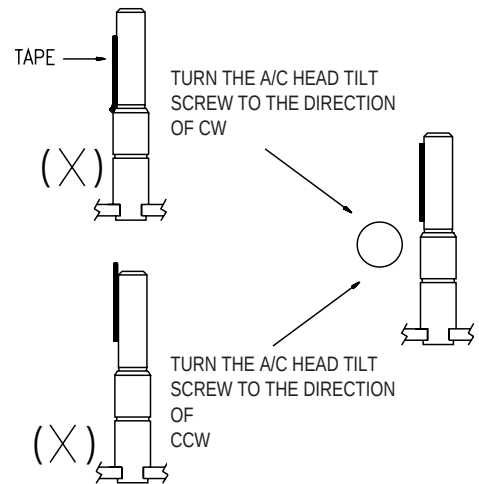

Fig. 5-2 A/C HEAD ASS'Y ADJUSTMENT
- Adjust the A/C HEAD TILT SCREW until the TAPE runs stable as shown in Fig. 5-2